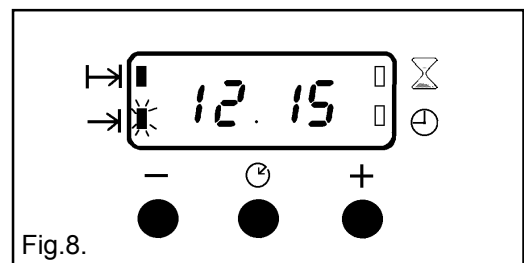

Fig.8.
- v) To set the 'End Time'. Press the Selector Control button until the 'End Time' ( ⏰ ) flashes. Press the increase control ( + ) until the required stop time is displayed, e.g. 12.15 p.m. as Fig. 8. If necessary depress the decrease control ( - ) until the correct time interval is achieved.